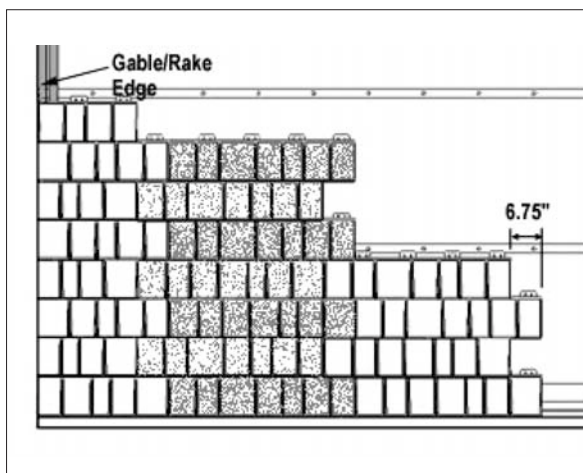

FIGURE 1-17 Racked Coursing
2. If the panel application is being Racked, offset the second course panel to the left 6-3/4". This will ensure that all the pre-punched holes in the nail tabs are accessible when securing the next vertical row of panels. *See Figure 1-17.*